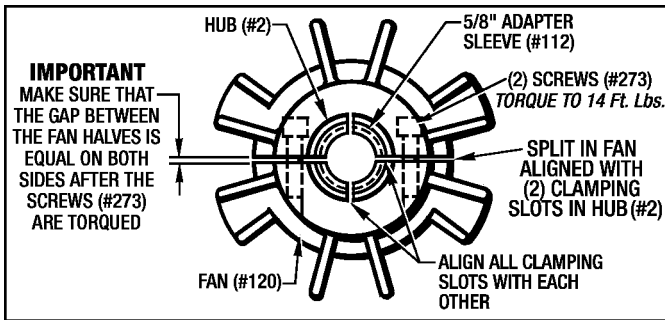

Figure 3.2 - Aligning Quill Clamping Slots (MSB2)
(See Figures 3.2 and 3.3)
1. If you have a 5/8" Dia. motor shaft then there will be a 5/8" Adapter Sleeve (#112) in the bore of the Hub (#2). Make sure the Quill Locking Slots are all aligned with each other as shown in Figure 3.2.
Also if you have a 7/8" Dia. motor shaft, you won't have the Adapter Sleeve (#112), but two of the Quill Clamping Slots in the Hub (#2) has to be aligned with the split in the Fan (#120) as shown in Figures 3.2 and 3.3.
4. Evenly torque the (2) Screws (#273) in the Fan (#120) to **14 Ft. Lbs.** Make sure that both slots in the Fan (#120) are equal as shown in Figure 3.2.